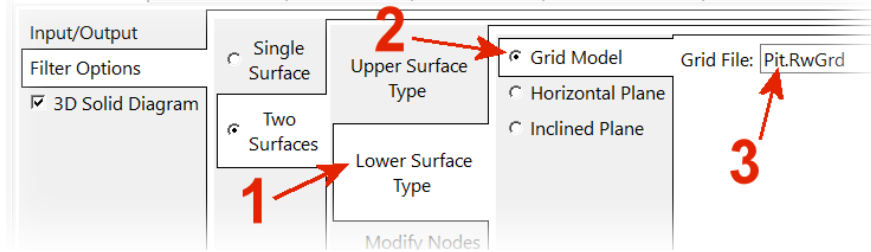

Figure 16
- As shown in Figure 16, set the Lower Surface Type (1) to be the previously-generated Grid Model (2) titled "Pit.RwGrd" (3).